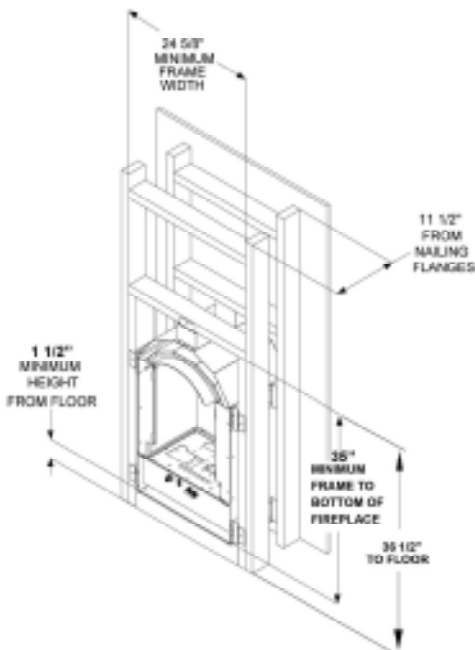
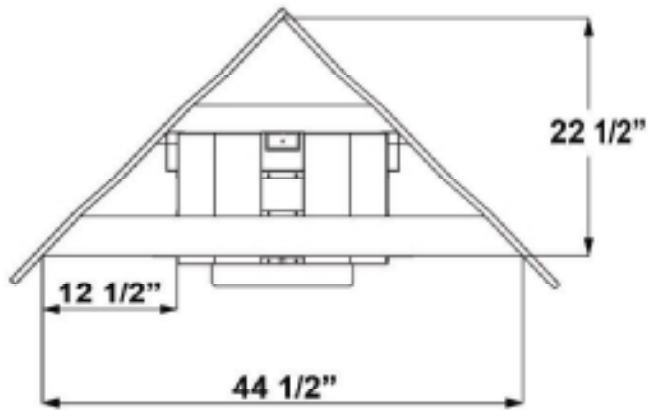

Figure 7- Cabinet Framing
Figure 9- Corner Framing
1. Frame in rough opening. Use dimensions shown in Figure 7 and 8 for the rough opening. If installing in a corner, use dimensions shown in Figure 9 for the rough opening.